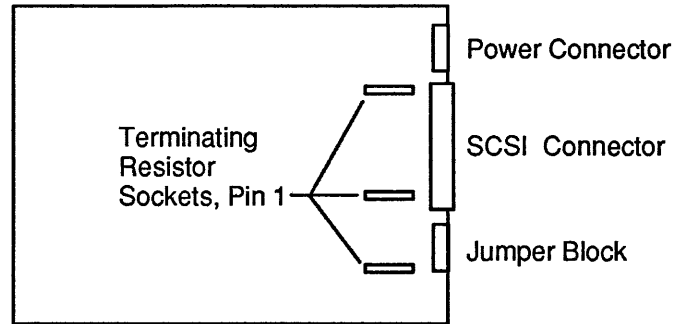

Figure C.7. Installing the Terminating Resistors (156 MB Disk Drive)
- c. Install the three 8-pin Terminating Resistors in the sockets shown in Figure C.7. Make sure that pin one of the Terminating Resistor is placed in the correct pin hole on the socket.